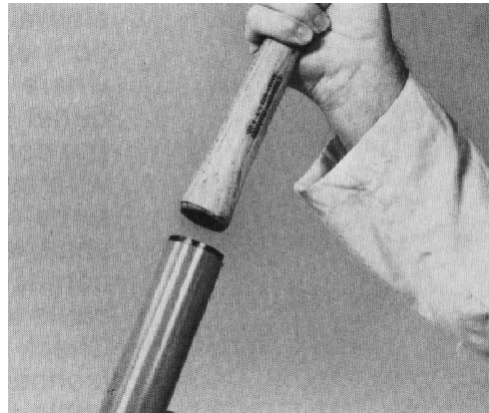
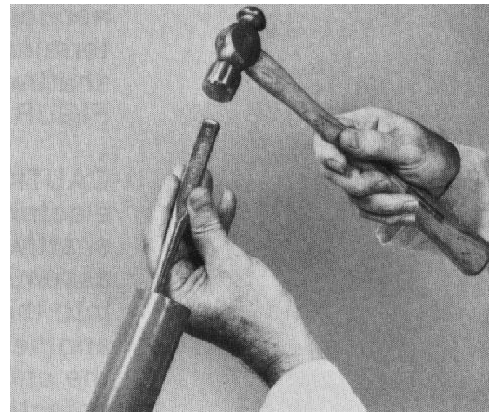

Figure 64
Figure 65
2. If the bushing was removed from the upper cover and jacket for replacement, press a new bushing into the upper end of the jacket tube with the recessed end of the bushing toward the jacket tube. Use an arbor press or the wood handle end of a hammer (Fig. 64). Push the bushing down until it is 0.1 in. (2.5 mm) below the top of the jacket tube. Use a pliers or punch to "crimp" the end of the jacket tube over the bushing in two places approximately 90° away from the original crimped areas (Fig. 65). Put clean multi-purpose grease on the inside of the bushing.